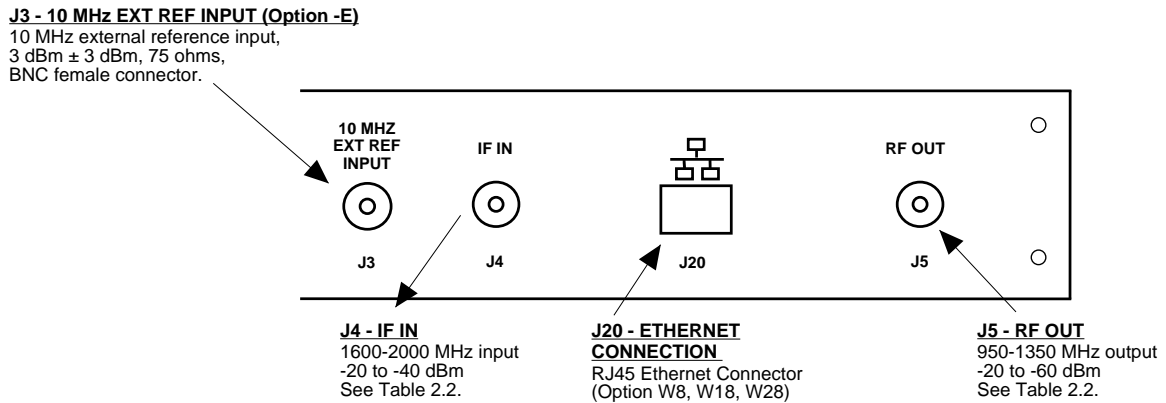

FIGURE 2.2 2083-1610 Rear Panel I/Os
2.2 Rear Panel Input/Output Signals - Figure 2.2 shows the input and output connectors on the rear panel.
1. Connect a -5 dBm to -25 dBm signal to IF IN, J4 (Figure 2.2)